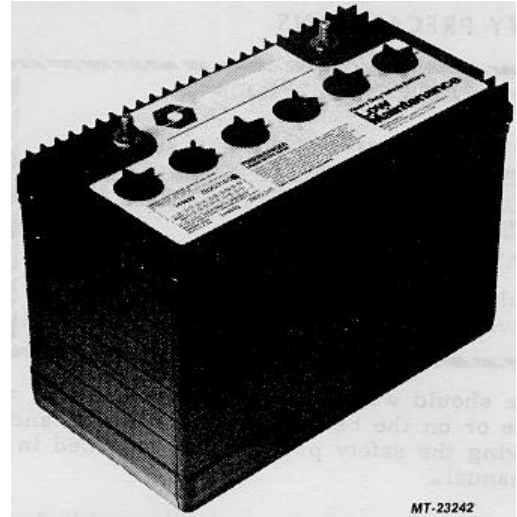

Fig. 1 Low Maintenance (Conventional) Battery
4. Install protector caps (2) supplied to terminal screws (see Fig. 1).
"Fleetrite" and "International" batteries are available in conventional (low maintenance) type (Figure 1) and maintenance free type (Figure 2) as described herein.